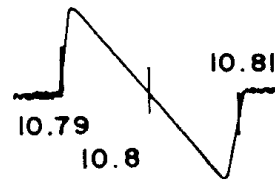

Figure 3
6. Adjust T6 so that 10.80MHz is in center of discriminator curve and for best linearity. See Figure 3.